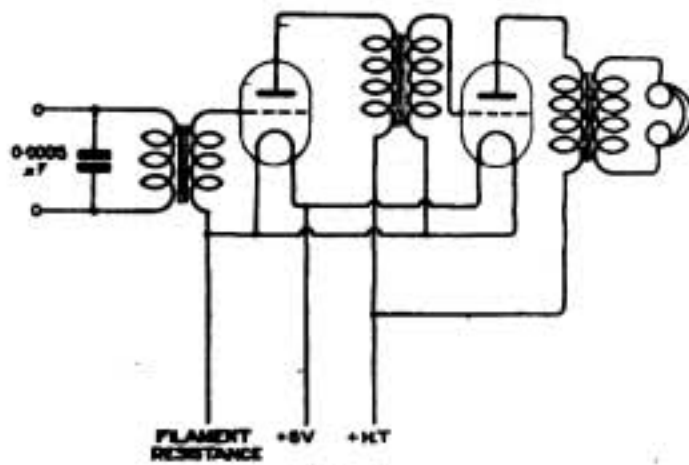

Fig. 5.
(1) Yes. (2) Each winding should be about 3' long, of No. 40 wire. A small variable condenser will probably be necessary across one winding. (3) See diagram (Fig. 5). (4) Yes.